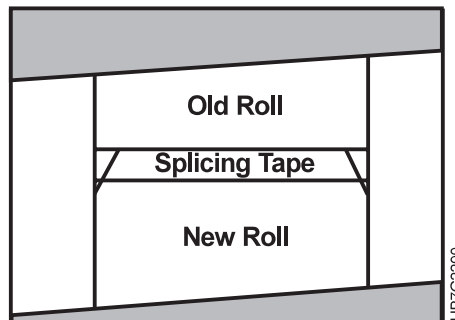

Figure 211. Width of New Roll is Same as Old Roll
- If the width of the new roll is the *same* as the old roll, just trim the corners of *only* the new roll, as shown in Figure 211.